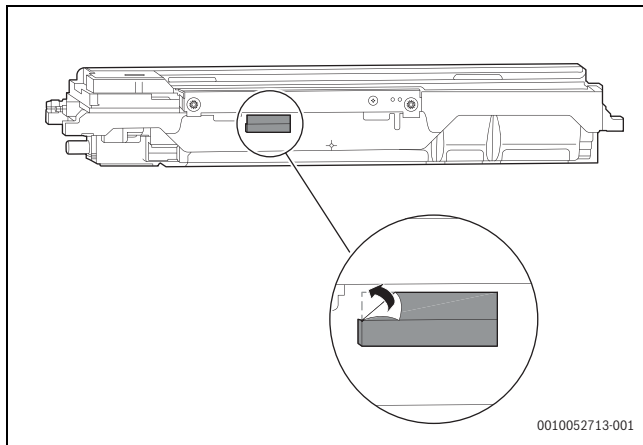

Fig. 2
2. Attach two adapter plate boxes and secure them with two double-sided strips (Fig. 2).